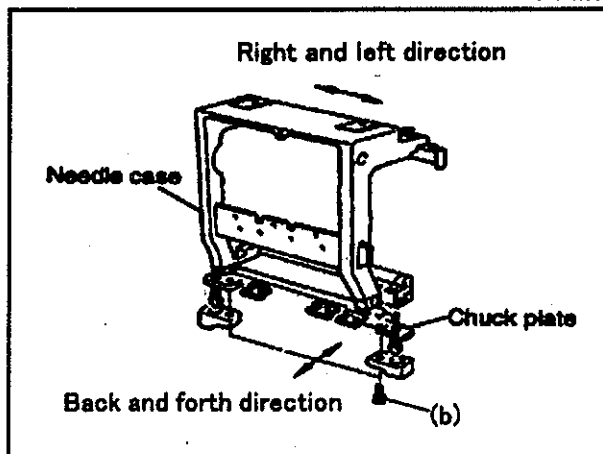

FIG.8
- (3) If the inset/removal force is not within the standard range, loosen the retaining screw (b) and move the chuck plate to the back and forth or right and left for adjustment (Fig.8).
Check the weight of putting on and taking off the needle clamp from the needle socket. If it is OK, tighten the retaining screw (b) (Fig.8).